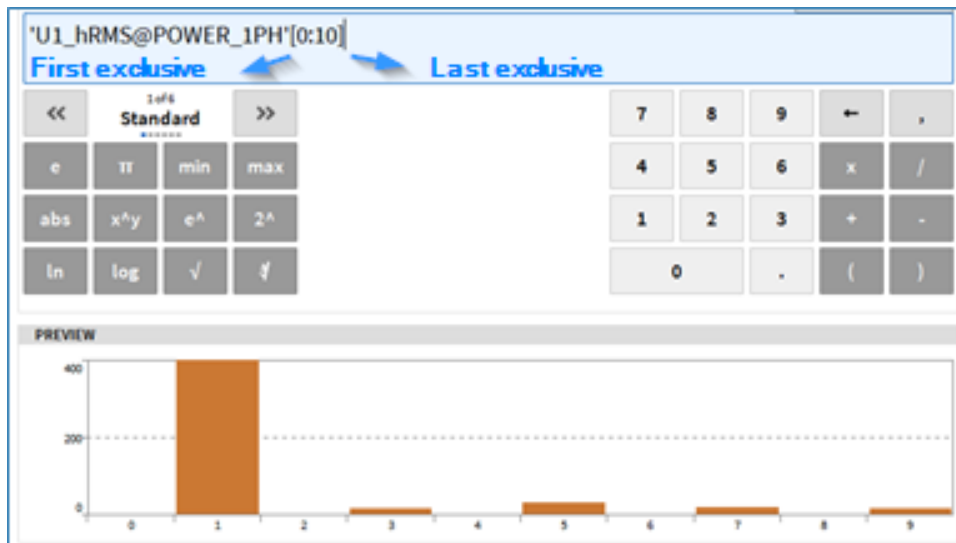

Fig. 7.74: Extraction of several adjacent elements
- When extracting several adjacent elements, the first specified index is always inclusive and the last one is always exclusive (see Fig. 7.74)
- Extraction of several adjacent elements (see Fig. 7.74). The output will be an array channel with the number of extracted element as new dimension.